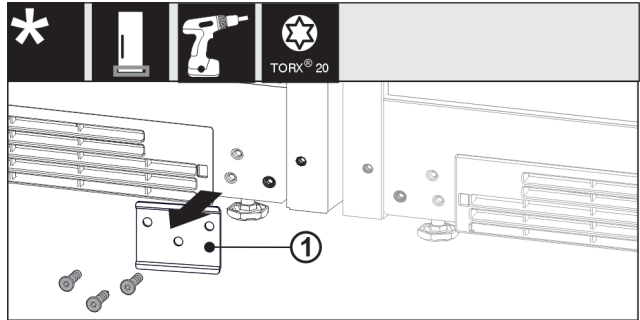

Fig. 16
- ▶ If installed, unscrew metal plate Fig. 16 (1).